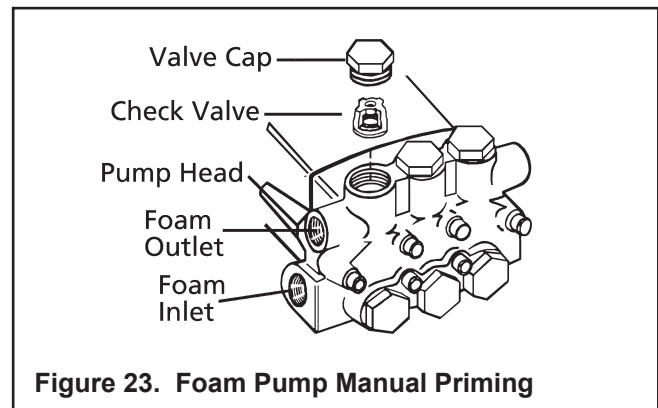

Figure 23. Foam Pump Manual Priming
- Remove one of the valve caps from the head of the pump and remove the check valve under it (See Figure 23).